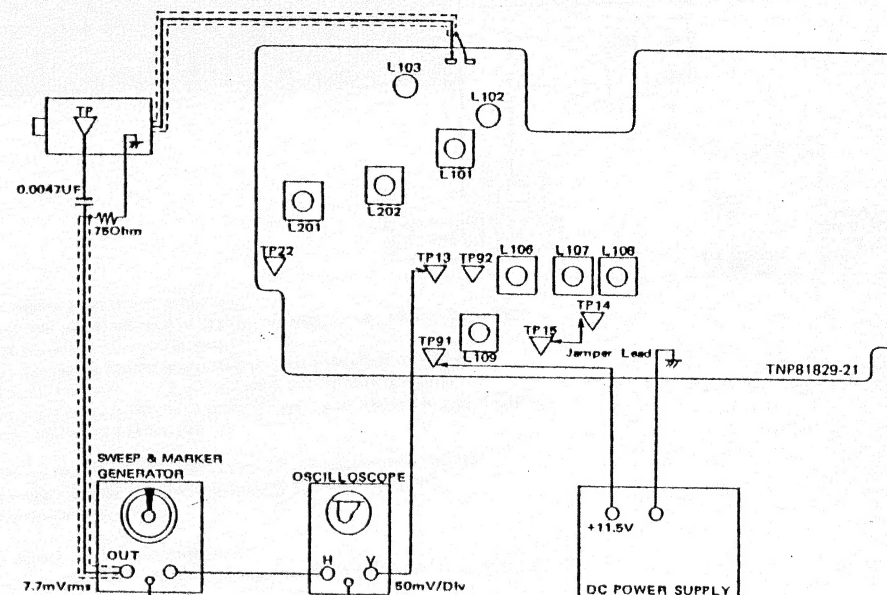

Fig. 14
1. Sweep & marker generator, oscilloscope and DC power supply . . . . . Connect and set as shown in Fig. 14
2. Connect the jumper lead between TP14 and TP15 as shown in Fig. 14